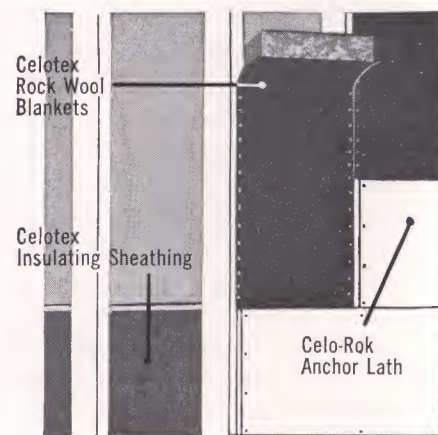

Fig. 2
2. Use Celotex Insulating Sheathing *plus* Celotex Rock Wool Blankets (Fig. 2). While this construction adds another material, and therefore another cost, it gives you extra high insulating efficiency. And it pays life-time dividends in comfort and fuel savings.